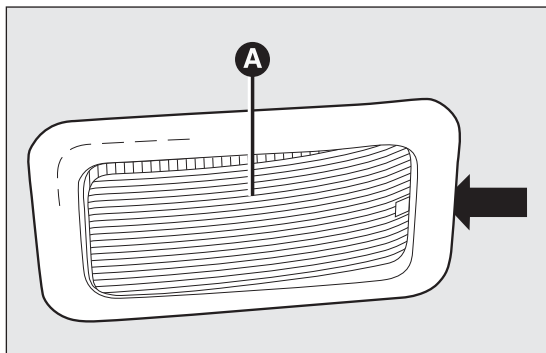

fig. 122
- ☐ using the screwdriver provided, extract the roof light A fig. 122 working in the point shown by the arrow;